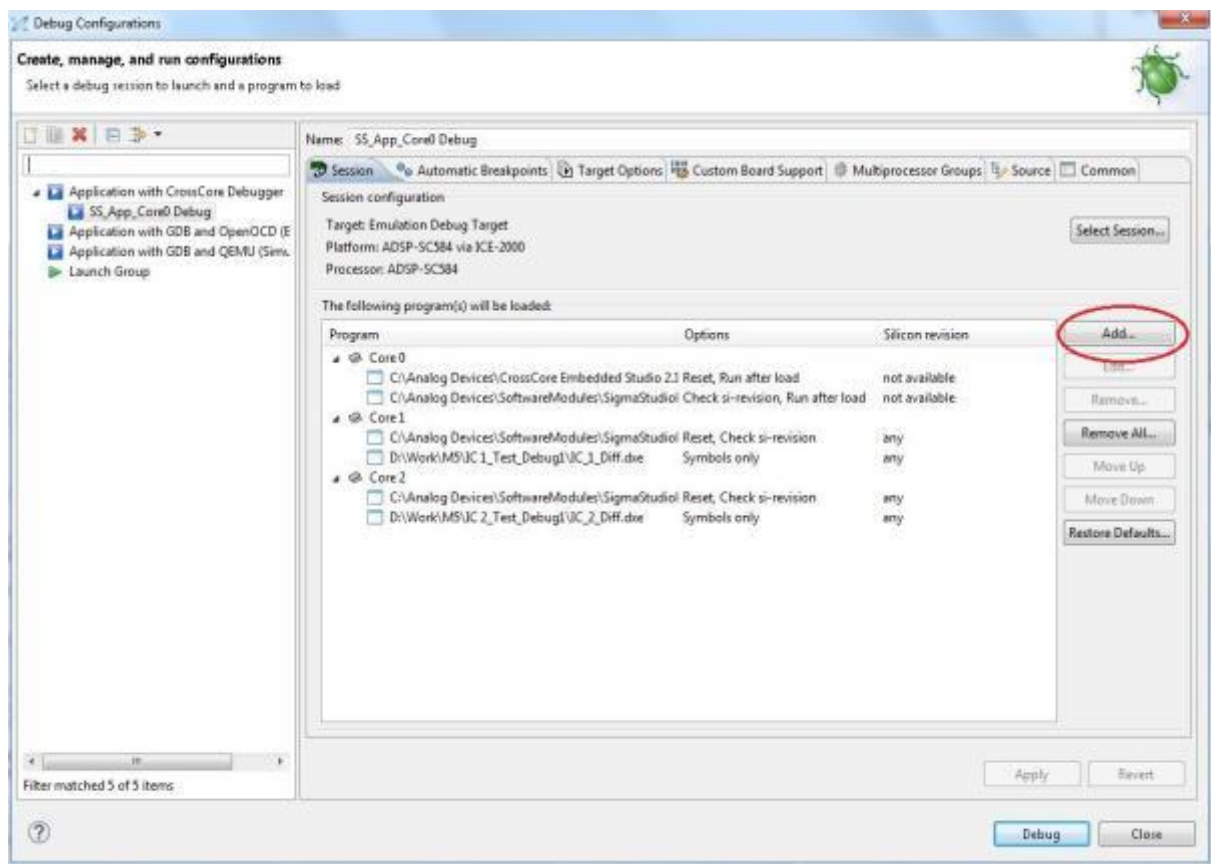

Figure 28: Debug Configuration
13. Load the DXE's 'SS_App_Core0' on Core 0, 'SS_App_Core1.dxe' on Core 1 and 'SS_App_Core2.dxe' on Core 2. Now select the 'SS_App_Core1.dxe' in Core 1, press 'Add' and select the schematic DXE corresponding to Core 1 (IC_1_Diff.dxe), select SS_App_Core2.dxe' in Core 2, press 'Add' and select the schematic DXE corresponding to Core 2 (IC_2_Diff.dxe) as shown in Figure 28.